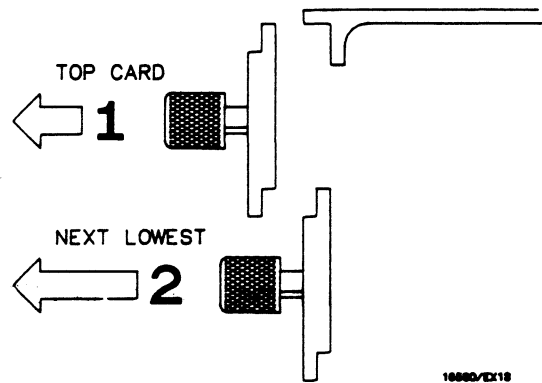

Figure 2-7. Endplate Overhang
- c. Starting **from the top**, begin pulling all cards out **half way**. See figure 2-7.